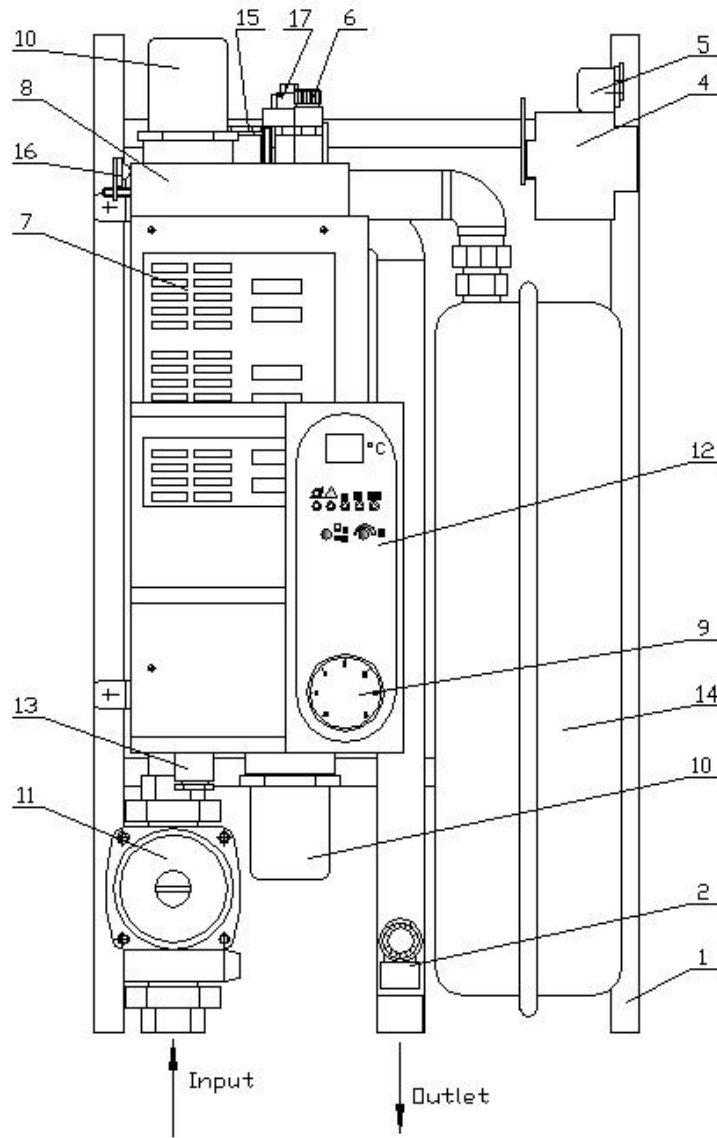
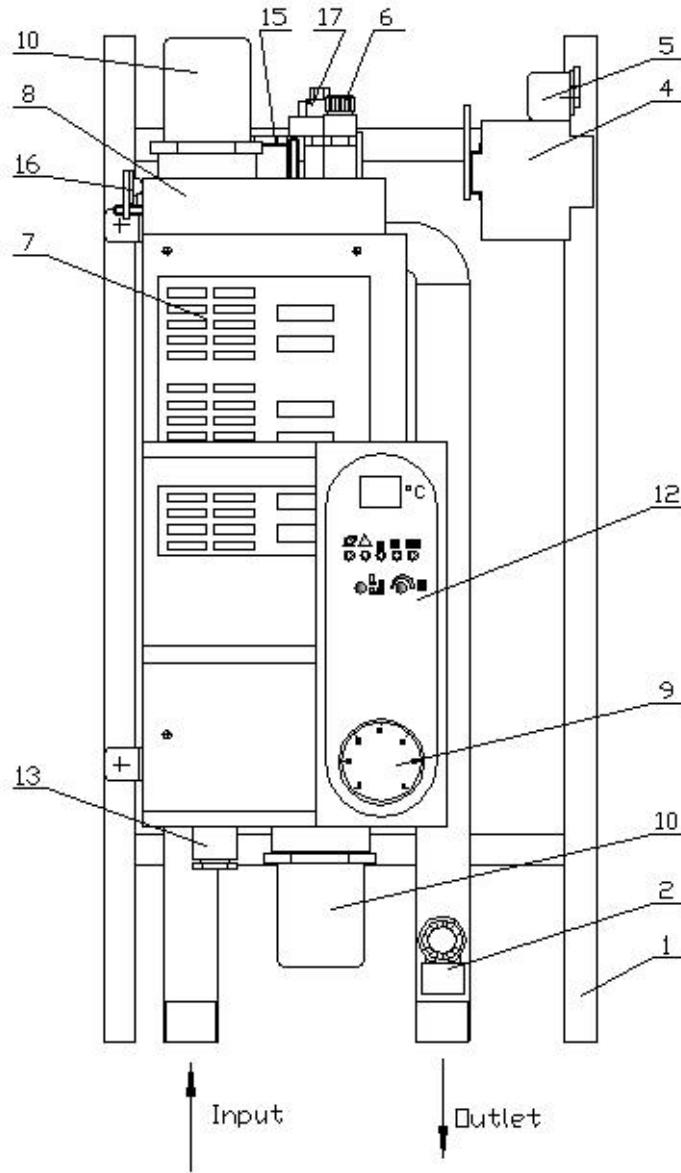

Fig.3
Fig.4
- ▶ Structure of the electric boiler/ module, see Fig. 3 page 11, Fig. 4 page 12.